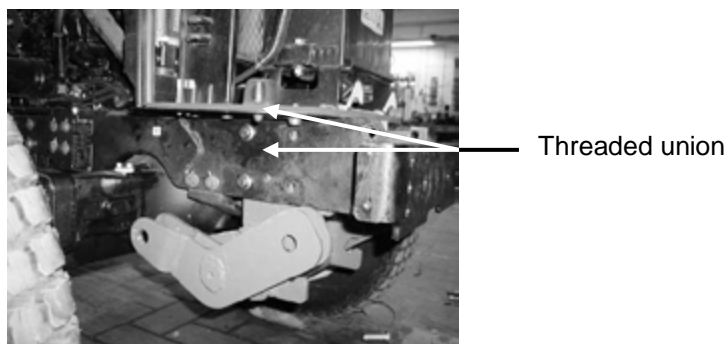

Fig 4: Fastening on the tractor frame
2. Bolt the front power lift to the tractor frame on both sides with the 2 rear screws (see Fig 4).